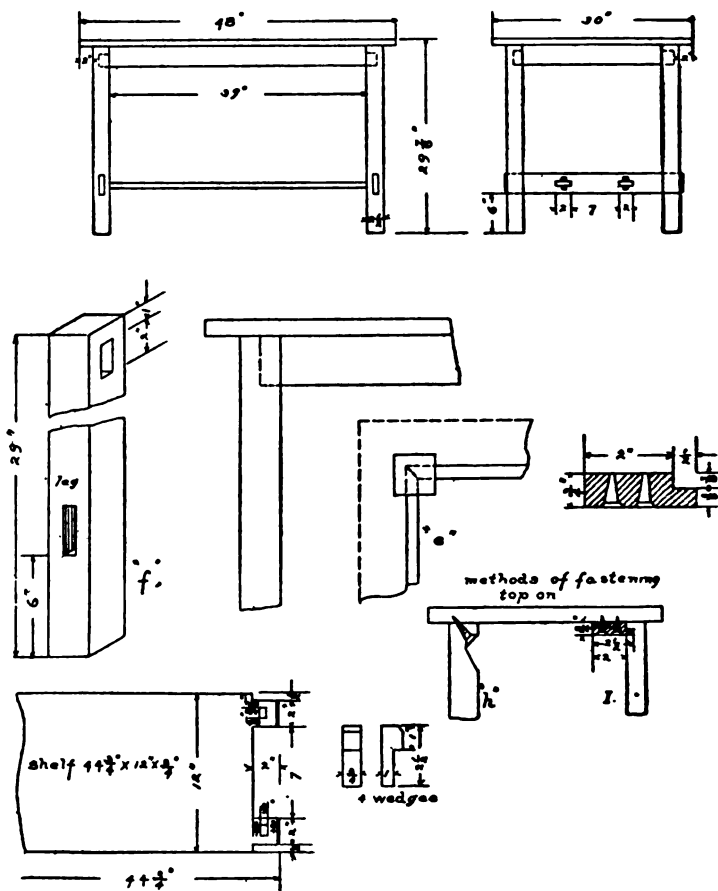

Fig. 196. A mission library table
**T**HE library table (Fig. 196) is a good example of solid and permanent furniture construction. It represents the main principles of the mission style — solidity, strength, simplicity, straight lines, mortise and tenon joints, etc.